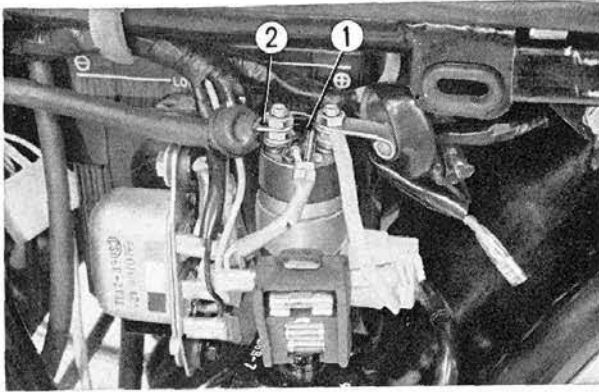

Fig. 9-10 ① Magnetic switch
② Starting motor cable
1. Remove the left side cover, disconnect the electric lead to the magnetic switch and then remove the magnetic switch. (**Fig. 9-10**)